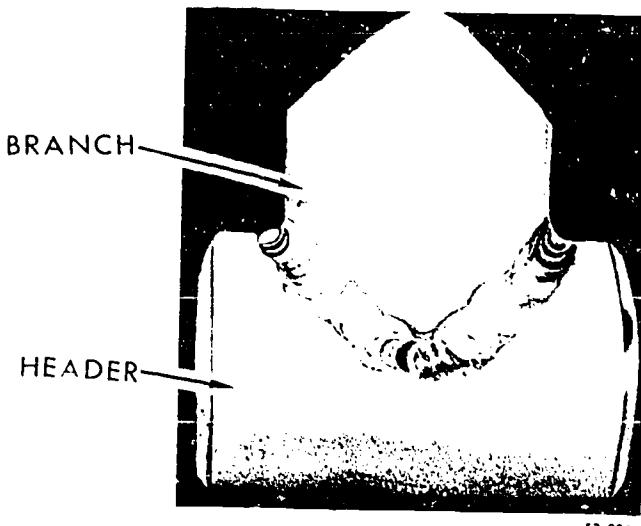

Figure 7-26. Aluminum tee joint.
**Tee Joints.** Fillet-type (tee) joints of aluminum are prepared and welded in the same manner as the fillet-type joints made of stainless steel. An example of a finished fillet-type joint of aluminum is shown in figure 7-26.